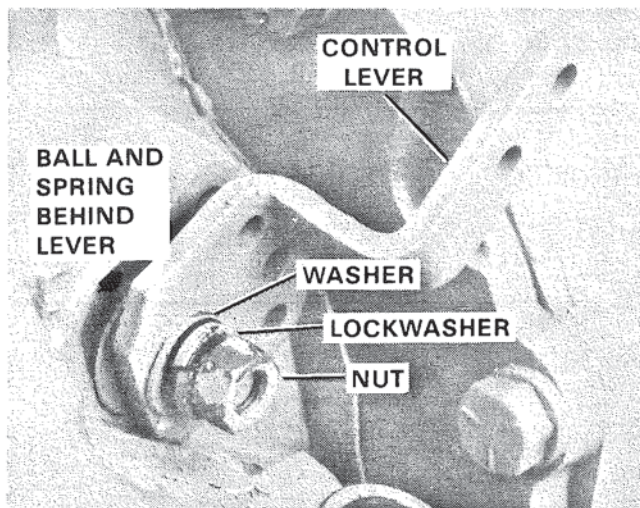

Figure 3. Shift Lever and Related Parts.
2. Remove shift lever and associated parts. Figure 3.